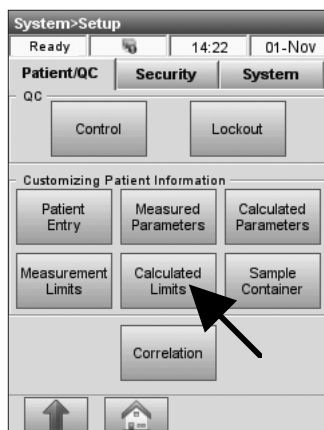

Fig. 3-39 Calculated Limits
1. In the main menu, select **<System Manager>** and **<Setup>**. Press **<Calculated Limits>** on the **<Patient/QC>** tab (Fig. 3-39).